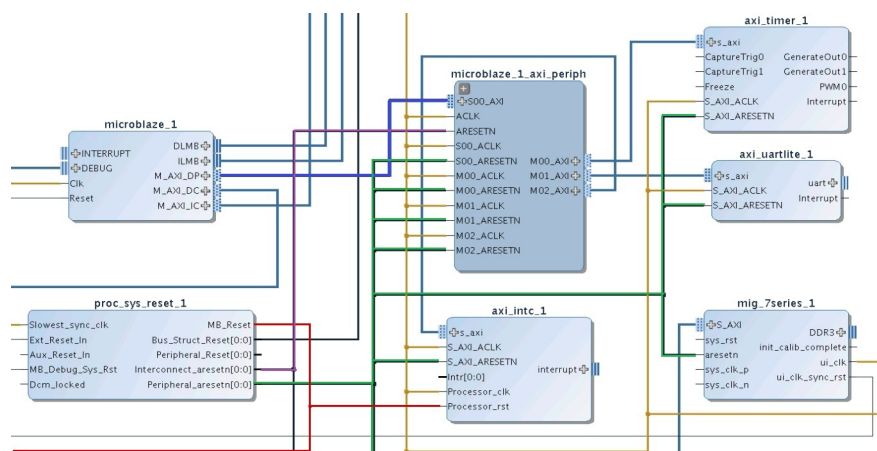

Figure 44: AXI4 Interconnect to IP Peripherals Connections
4. The connections you just made are shown in Table 4. Each row in the table represents a connection/net to be made). Refer to Figure 44 for these connections.